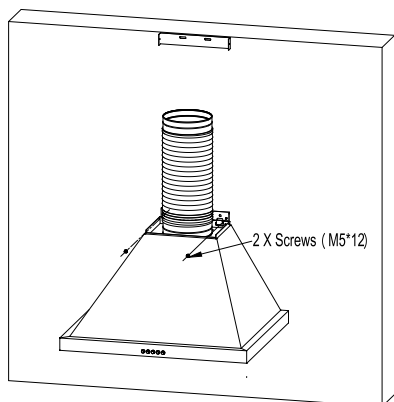

Fig.7
- After connecting the exhaust pipe well, lock screws (M5*12) to prevent the range hood from accidentally sliding off the installation plate. See Fig.7.